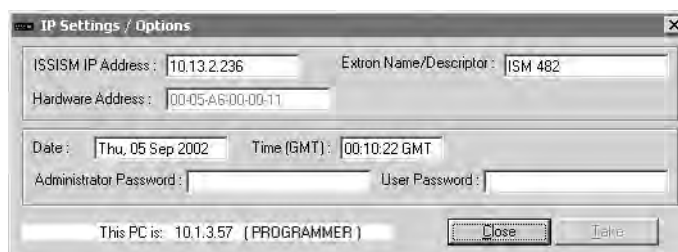

Figure 35. Control Program IP Setting/Options Window
The IP Settings/Options screen (see figure 35 on page 51) provides a location for observing and, if you are connected via the RS-232 link or if logged on via the Ethernet port as an administrator, editing settings unique to the Ethernet interface. None of the fields on this screen can be edited while you are logged on as a user. See System Configuration Page on page 67, for details on the contents of these fields. See Ethernet Connection on page 69 for other basic information about Internet protocol.
7. If desired, on the task bar, click **Tools > IP Options** to set the switcher's IP parameters in the IP Settings/Options window (see figure 35).